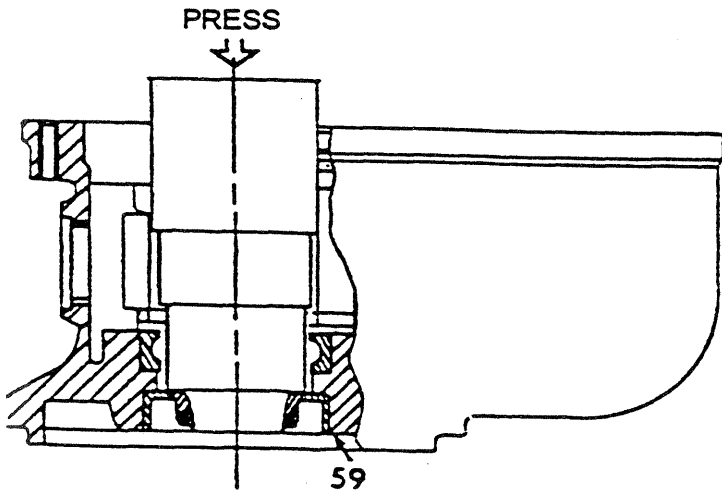

Figure 404. Pressing Oil Seal Out of Housing
- A. Support magneto housing, mounting flange down, on base plate of an arbor press using a block of wood to protect the impulse coupling stop pins (60). Insert the 11-6924-1 Pressing Tool through bearing outer race until it seats against oil seal (59, Figure 404) as shown. Press oil seal out and discard.